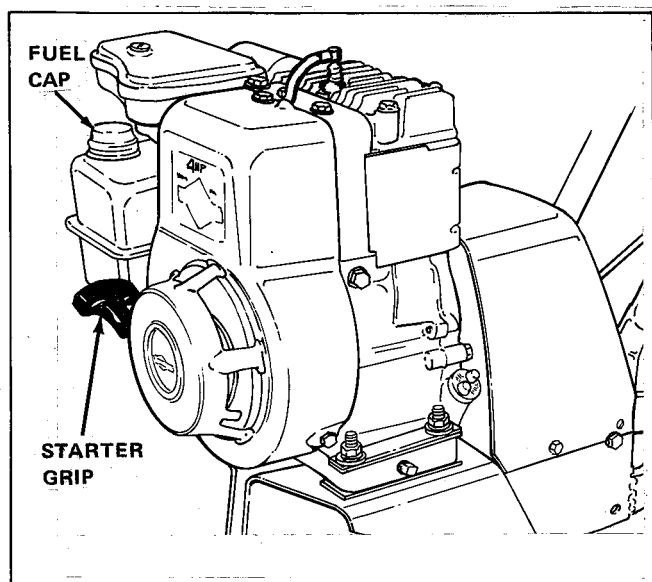

Figure 2. Fuel Tank and Filler Cap
- a. Remove fuel cap (see figure 2 on next page).